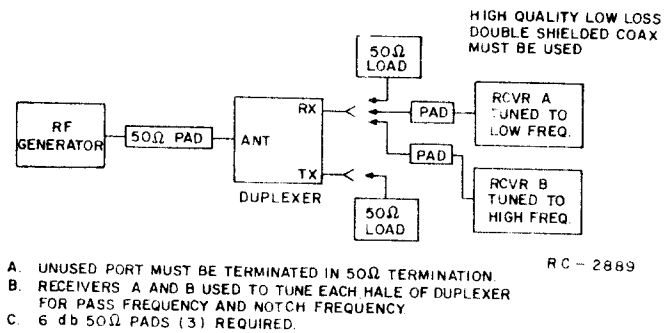

Figure 6 - Block Diagram of Duplexer Connections
2. REFER TO FIGURE 6 WHEN TUNING DUPLEXER.